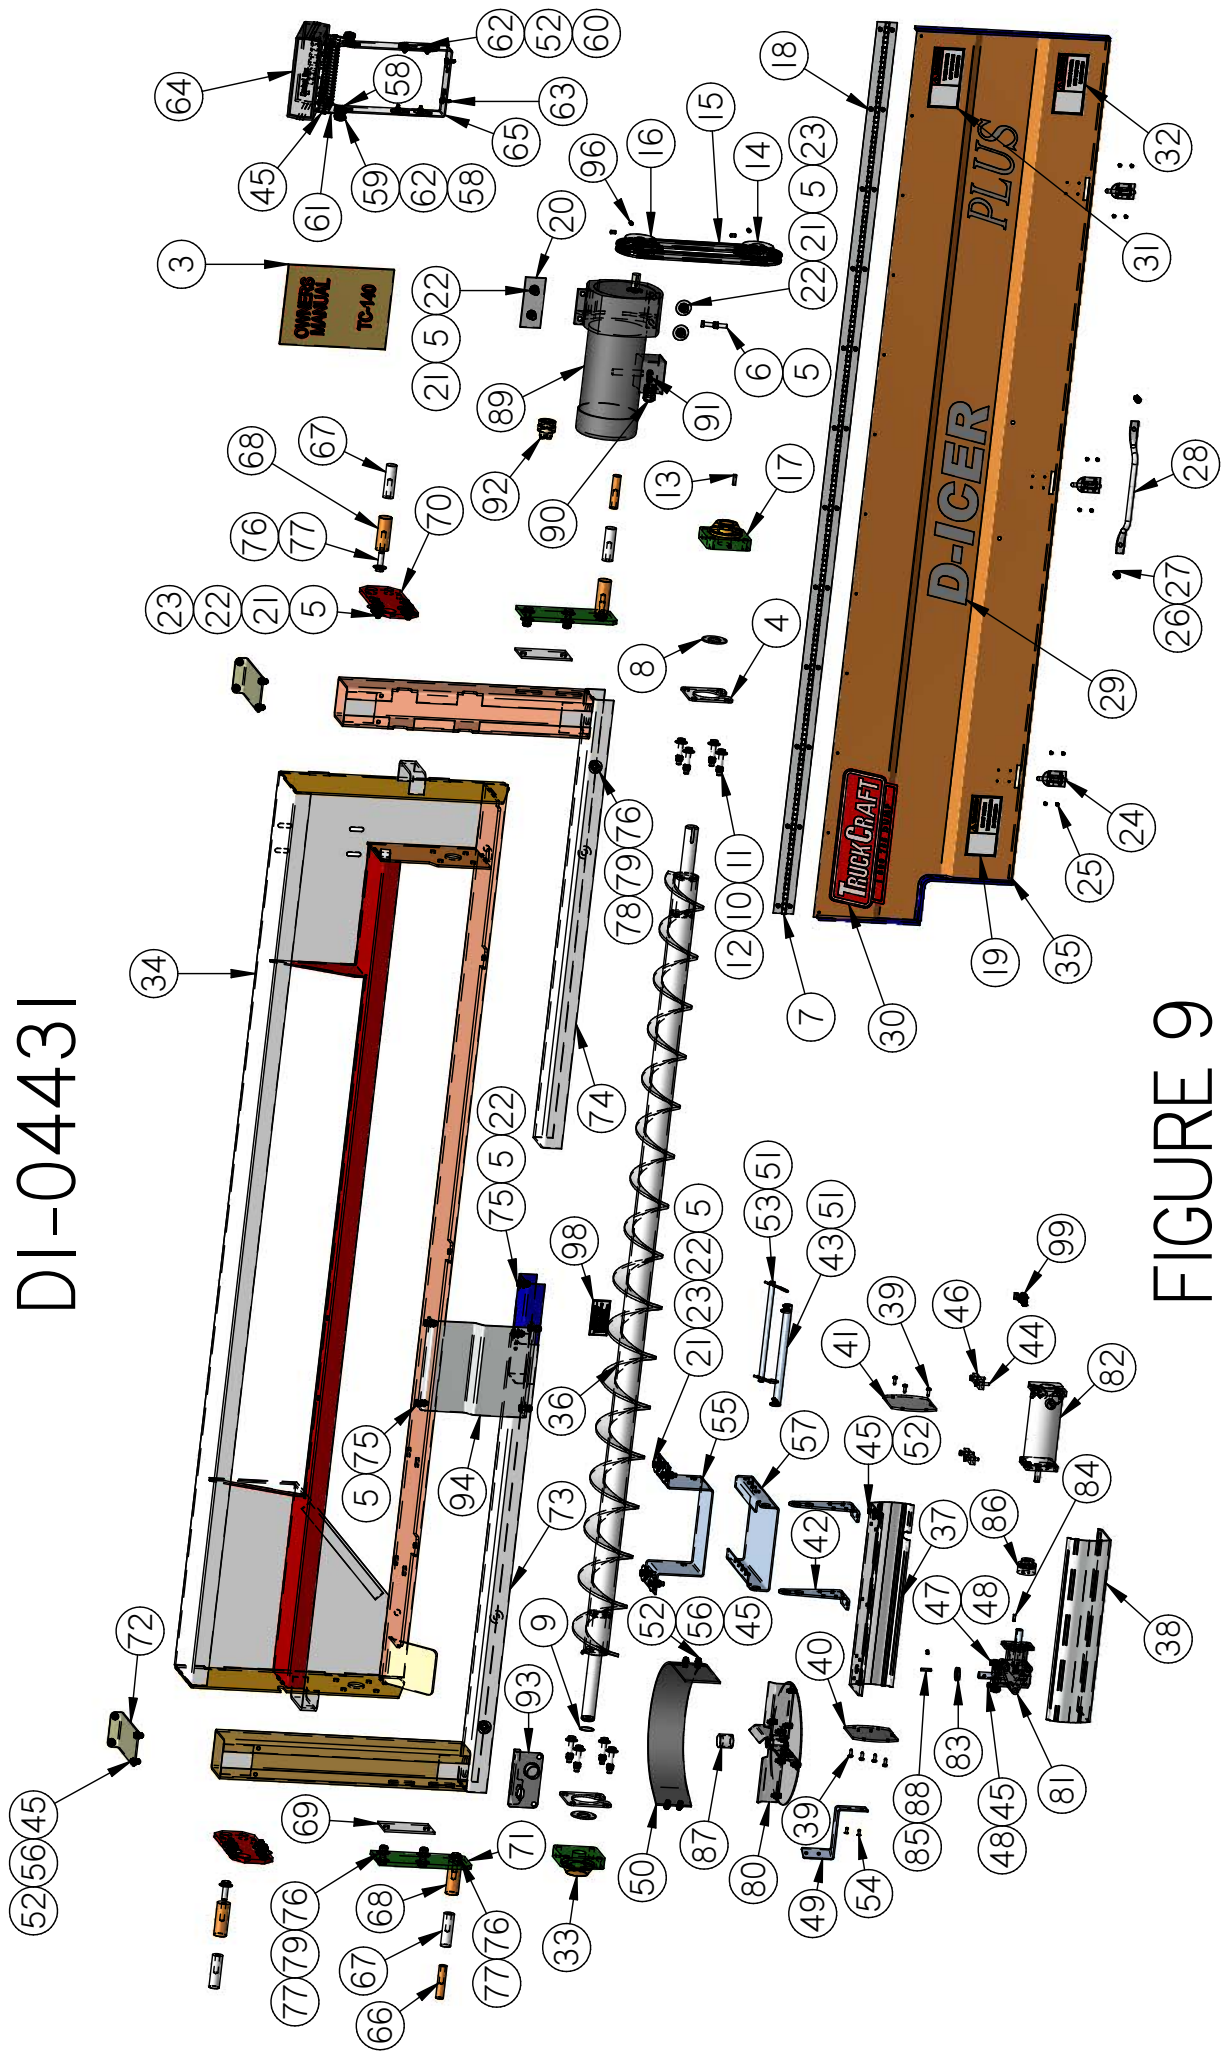

FIGURE 9
(See *Parts List, Figure 9 & 10, at end of manual for details*)
Subtract this dimension from 90". The remainder represents the amount that must be cut off of the lower channel of item #78 (Bracket R.H.) in Figure 9. With this material removed, fit item #78 (Bracket R.H.) together with item #77 (Bracket L.H.) and measure the overall width. Be sure to measure to the outside of items #75 in order for the bracket assembly to fit properly.
- Step #2** Once the correct width of the bracket assembly is established, the R.H. and L.H. sides must be connected. This is accomplished by transferring the hole locations in the splice channel on item #77 (Bracket L.H.) to the underside of the lower channel on item #78 (Bracket R.H.). With these holes located, drill (2) 5/16" holes and bolt the brackets together using the fasteners provided.
- Step #3** Select (2) pins approximately the same diameter as the lower pins on the existing tailgate and install them to the pin bars (item #75) as shown in Figure 9. Do not fully tighten until the proper position is established in step #4.
(See Parts List, Figure 9 & 10, at end of manual for details)